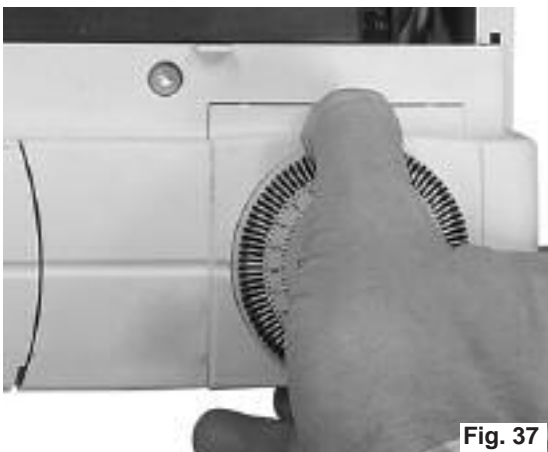

Fig. 37
- Push the clock back into the panel and refit the casing panel (Fig. 37).